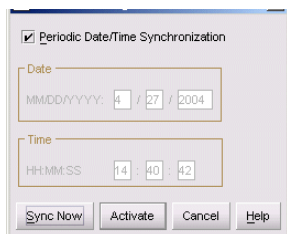

Figure 42 Configure Date and Time dialog box
1. Select **Configure > Date/Time**. The Configure Date and Time dialog box appears, as shown in Figure 42.